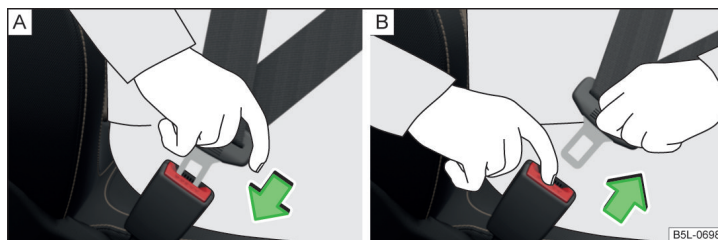

Fig. 6 Fastening/unfastening the seat belt
- Insert the lock tongue into the belt buckle belonging to the seat » Fig. 6 - [A] until you hear it click into place.
- Grip the lock tongue and press the red button in the buckle » Fig. 6 - [B], the lock tongue pops out.